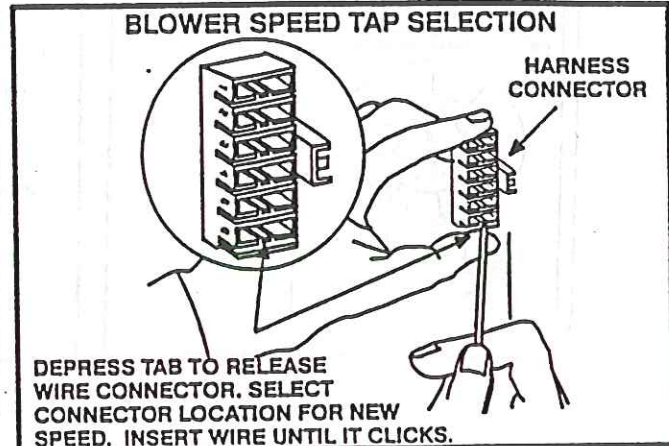

Figure 40
**BLOWER SPEEDS** - Blower speed selection is accomplished by changing the taps at the harness connector at the blower motor. See Figure 40